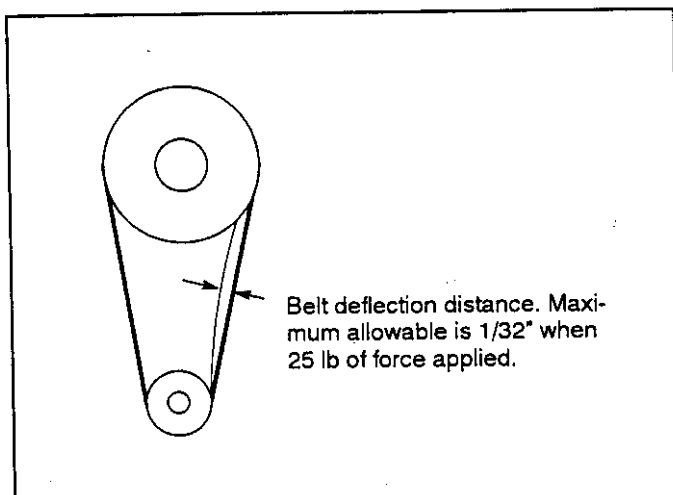

Figure 32. Elevation Drive Belt Deflection.
- b. Using the adjustment screw on the drive belt adjustment bracket, increase the belt tension to achieve a maximum deflection of 1/32 inch at 25 pounds of pressure, as shown in Figure 32.